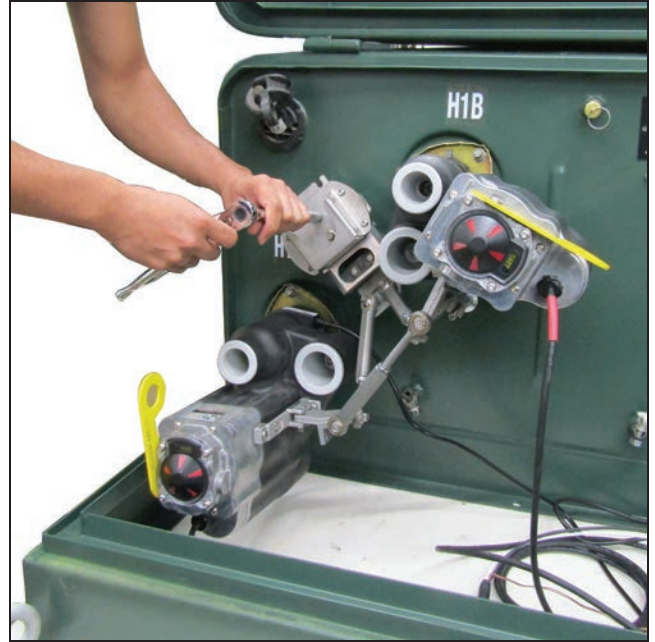

Figure 26. Loosen the bolts.
- STEP 1.** Loosen and remove the two $\frac{1}{4}$ -20 $\times$ $\frac{5}{8}$ -inch flange head bolts shown in Figure 26. Remove the parking stand spacer.